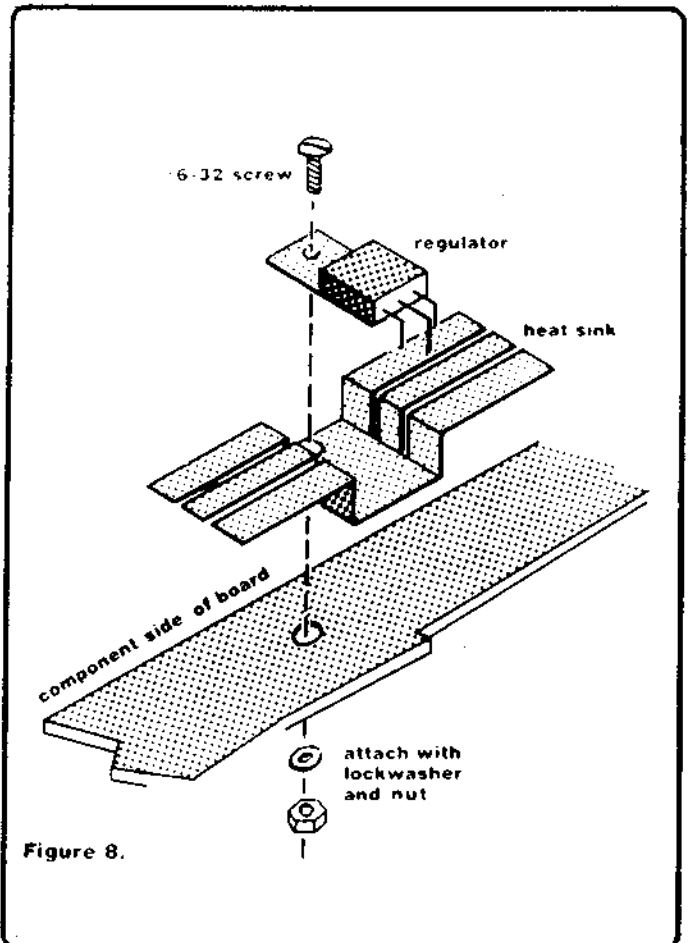

Figure 8.
2. Mount the 5 regulators and the regulator heat sinks in place. Referring to Figure 8, observe that the heat sinks mount on top of the board, and then, the regulators mount on top of the heat sinks. If desired, a small dab of heat sink compound may be added between the regulator cases and heat sinks to improve thermal transfer from regulator to sink. Again referring to Figure 8, bend and insert all regulator leads as shown, then bolt the heat sink regulator assemblies into place using the provided nut, bolt and lockwasher hardware. After these assemblies are in place, solder the regulator leads on the solder side of the board.